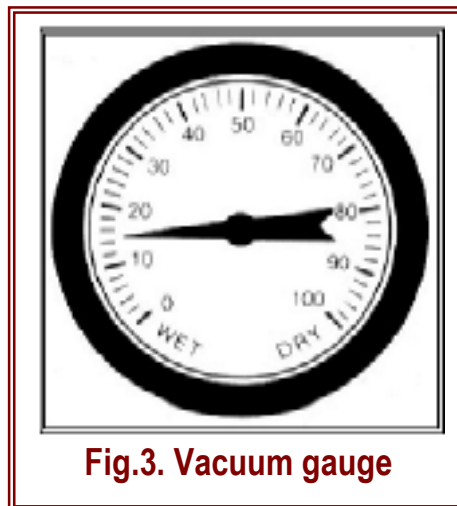

Fig.3. Vacuum gauge
3.4 Vacuum gauge – The vacuum gauge (Fig. 3) registers soil moisture tension. Water moving out through the porous cup causes the vacuum dial gauge reading to change indicating the suction or tension, at which the water is being pulled by the surrounding soil. It is calibrated in centibar or hundredths of one “bar.”